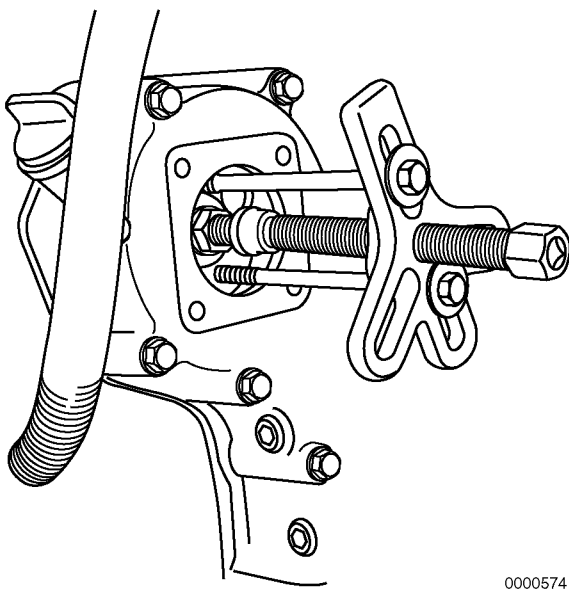

Figure 7-14
20. Remove the pump drive gear and hub as an assembly using an appropriate two-bolt gear puller (Figure 7-14).